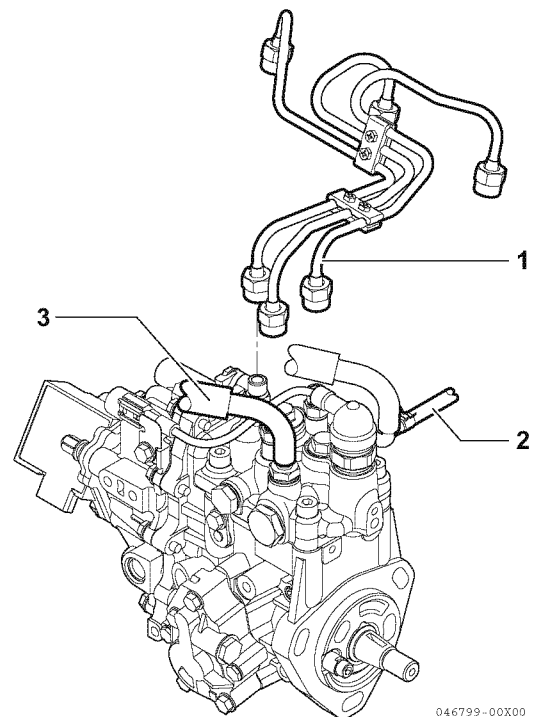

Figure 7-7
5. Remove the high-pressure fuel injection lines as an assembly (**Figure 7-7, (1)**).
8. Disconnect the fuel return lines from the fuel return fitting (**Figure 7-7, (2)**). Plug the open ends of the lines to minimize leakage and prevent contamination.
9. Remove the fuel supply line (**Figure 7-7, (3)**). Plug the open end of the line to minimize leakage and prevent contamination.